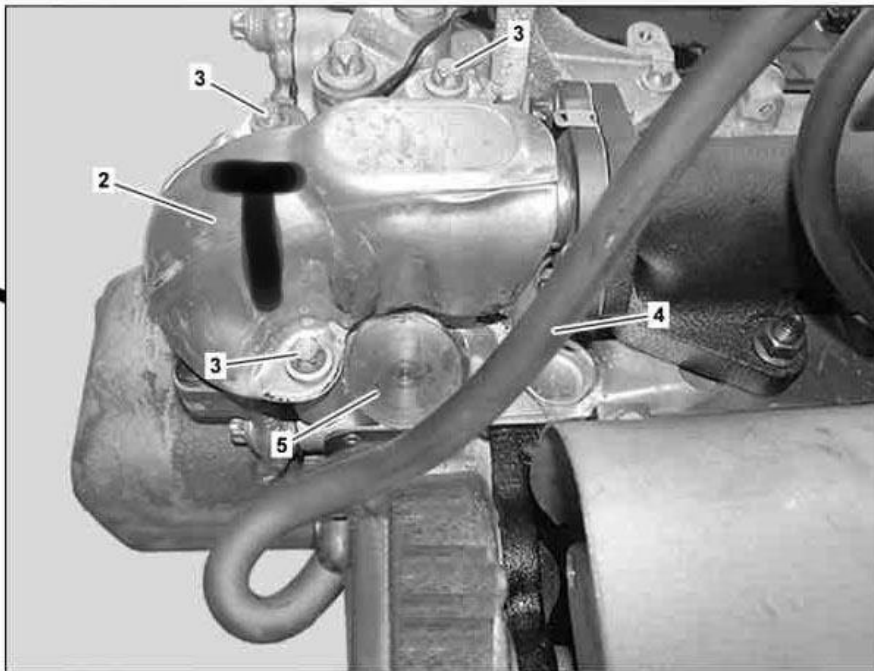

Figure 6
- Mark heat shield (2, Figure 6) with the letter "T" (using permanent marker) to indicate campaign has been performed.